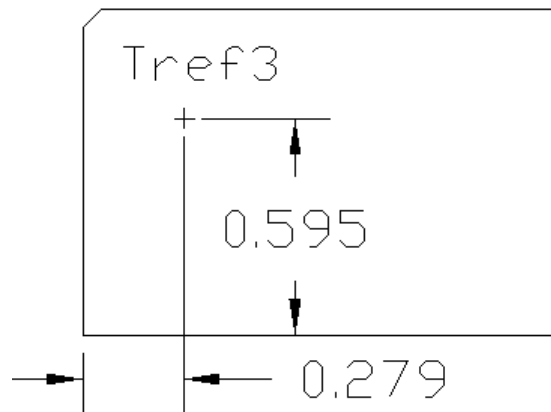

Figure 14. T_{ref} Temperature Measurement Location for Module with Heatplate.
The thermal reference point, T_{ref3} , used in the specifications for modules with heatplate is shown in Figure 14. For reliable operation this temperature should not exceed 112°C .